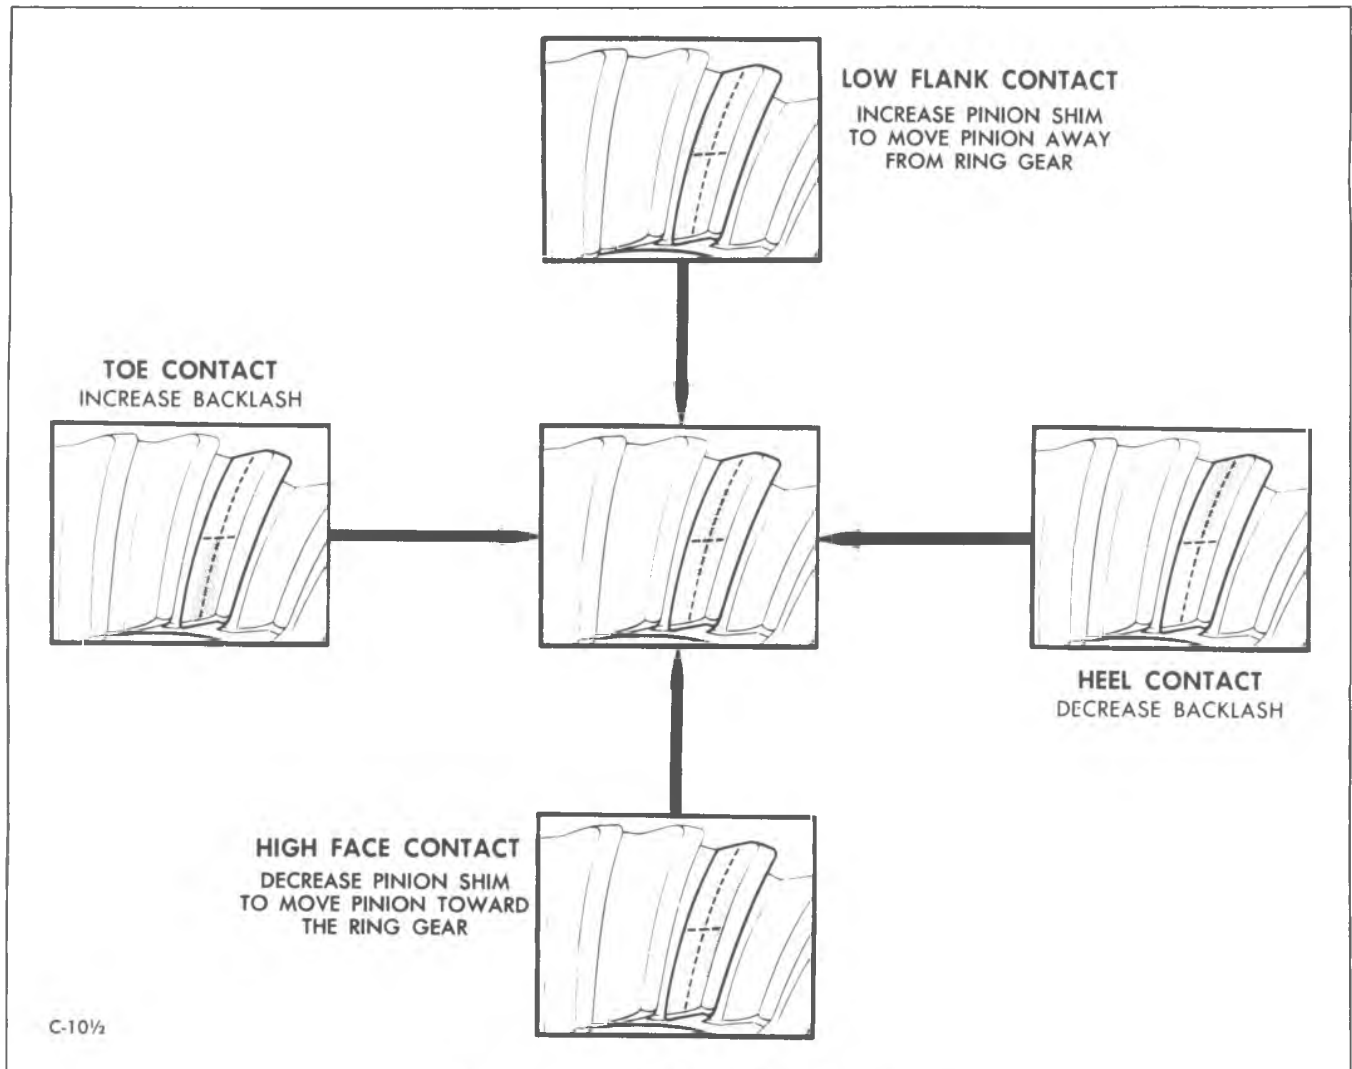

Fig. 18E-Gear Teeth Contact Pattern Check
5. Observe pattern on ring gear teeth and compare with figure 18E. Make adjustments as outlined below.
1. The pinion depth shim may be replaced as necessary to place the drive pinion at the correct depth. See figure 18E.